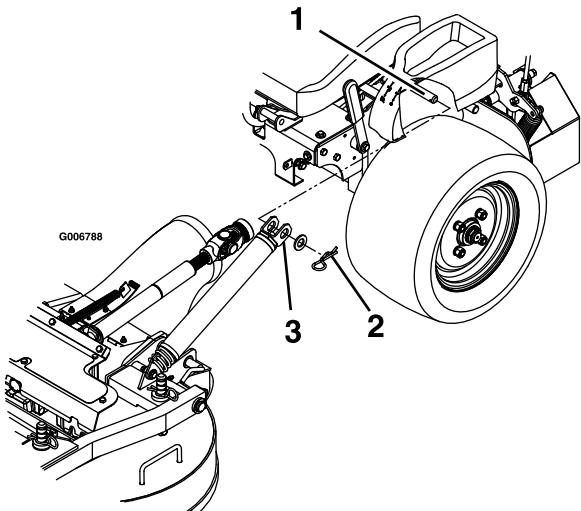

Figure 66
3. Remove the hairpin cotters and washers at the top of the deck-lift-assist spring on each side of the machine (Figure 66).
- Install the springs onto the spring anchor pins under the left and right consoles and secure with a washer and hairpin cotter (Figure 66).